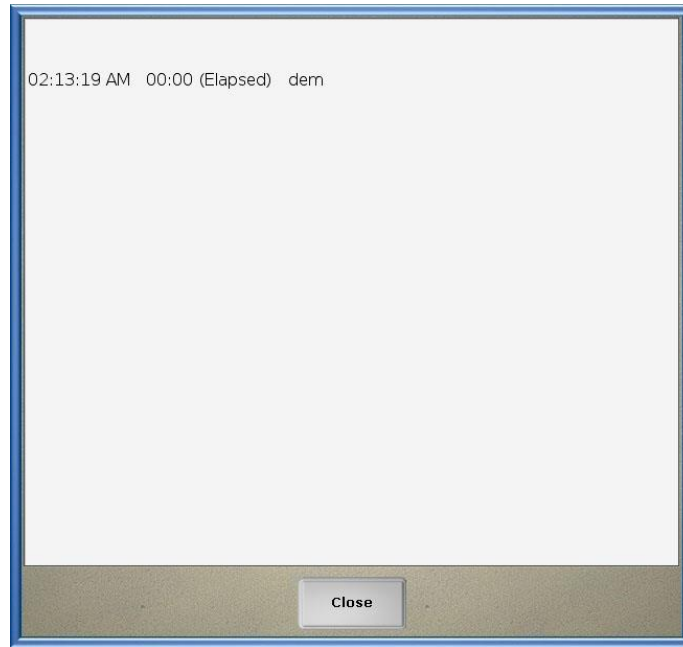

Figure 3-8. Notes Entry Window
4. Enter patient treatment information in the Notes Entry window (Figure 3-8). Each time you access the notes feature throughout a treatment, you will see a date and time stamp, the elapsed time, and your initials. The elapsed time indicates the time since system calibration started, when you are on the System Calibration screen. Or, when on the Urologix - BPH Treatment screen, the elapsed time indicates the time since the treatment started. If you have not started system calibration or a treatment, then the elapsed time will be 00:00.